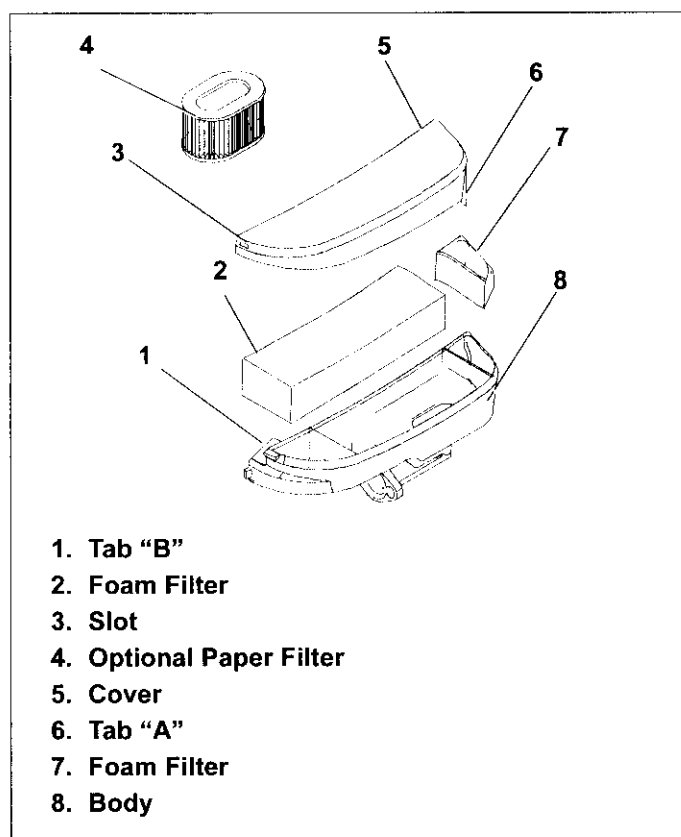

Figure 26. Air Cleaner Type "B" Assembly
1. Remove cover by pulling tab "A" away from body while lifting cover upward. See Figure 26.